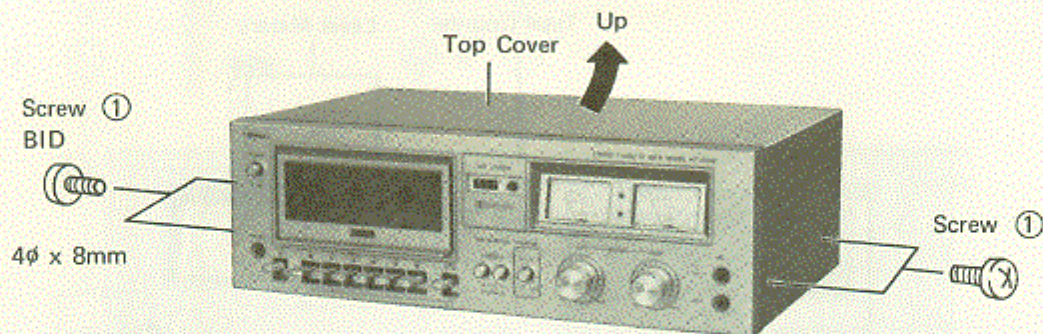

Figure 4.
1. Detach the top cover. See figure 4.